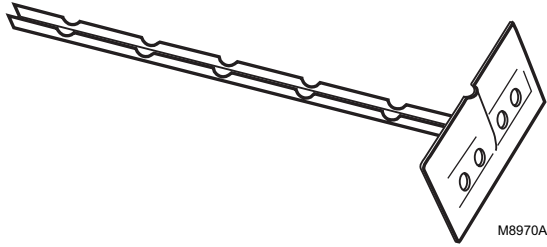

Fig. 12. Bulb support.
2. Using the holder as a template, mark and drill holes for the bulb holder mounting screws. (See Fig. 12).